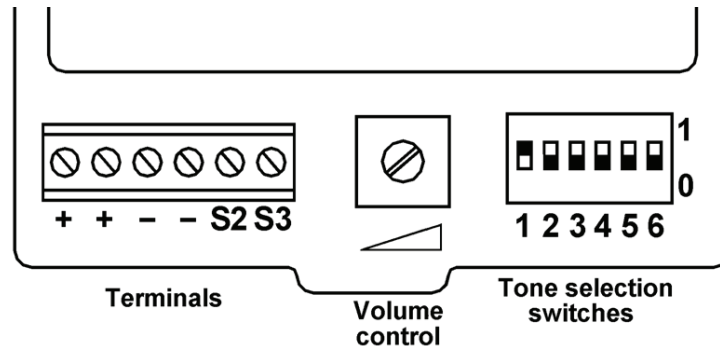

Figure 4 - Beka Horn internal power connection terminal
- b. **Yoda Horn:** the elected plus wire to '+' pin 2 and return wire to '-' pin 1. (See figure 4). Close the horn, retighten the 4 corner screws and tighten the gland.